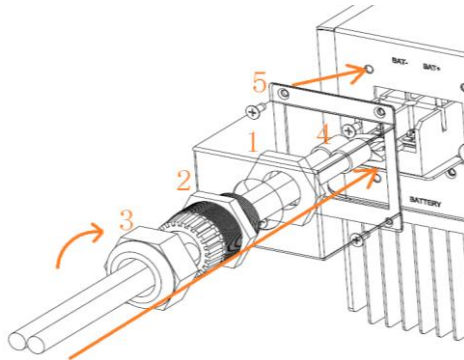
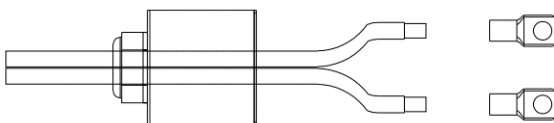

Fig. 6.1.1
Fig. 6.1.2
2. The battery terminals are included in the package. Strip off 5mm insulation layer of the battery cable and route it through the waterproof cover and waterproof terminal as shown in Fig. 6.1.1:
3. Fix the waterproof terminal on the waterproof cover. In Fig.6.1.1, route 2 through the waterproof cover, screw with 1, and reinstall the waterproof cap 3 onto 2.
4. Connect the battery cable section from which the insulation layer is stripped with the battery terminal (accessory), as shown in Fig. 6.1.2, route the cable through the cable inlet at the terminal tail, and bind up the terminal tail by an insulated rubber tape or a thermoplastics pipe after tightening. During installation, properly complete insulation treatment, otherwise it is possible to cause the battery short circuit.
5. Fix the battery terminals 4 shown in Fig. 6.1.2 onto the battery terminal on the housing by the screws (provided with the housing). Note that positive and negative electrodes are not reversed. Fix the waterproof cover 5 shown in Fig. 6.1.1 to the housing, and tighten the waterproof cover 3 shown in Fig. 6.1.1 to prevent water and dust.